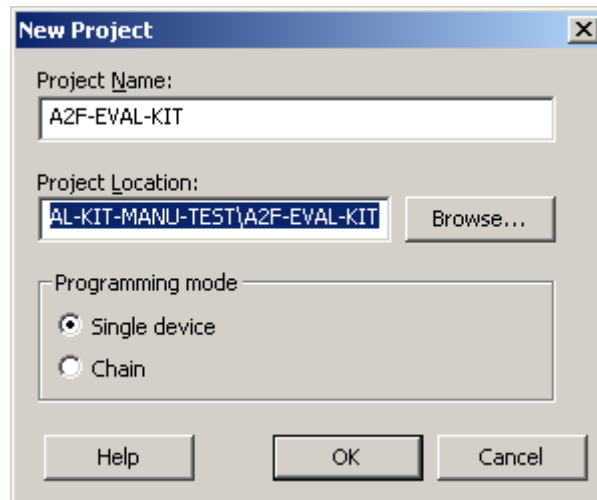

Figure 7-3 • New Project Creation
2. Create a new programming project (Figure 7-3).